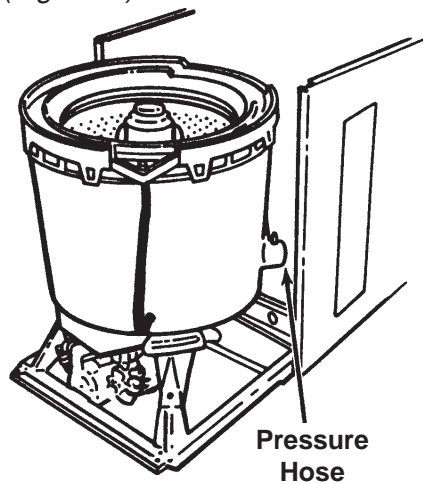

Fig. 5-21
4. Remove the Pressure Hose. (Fig. 5-21)